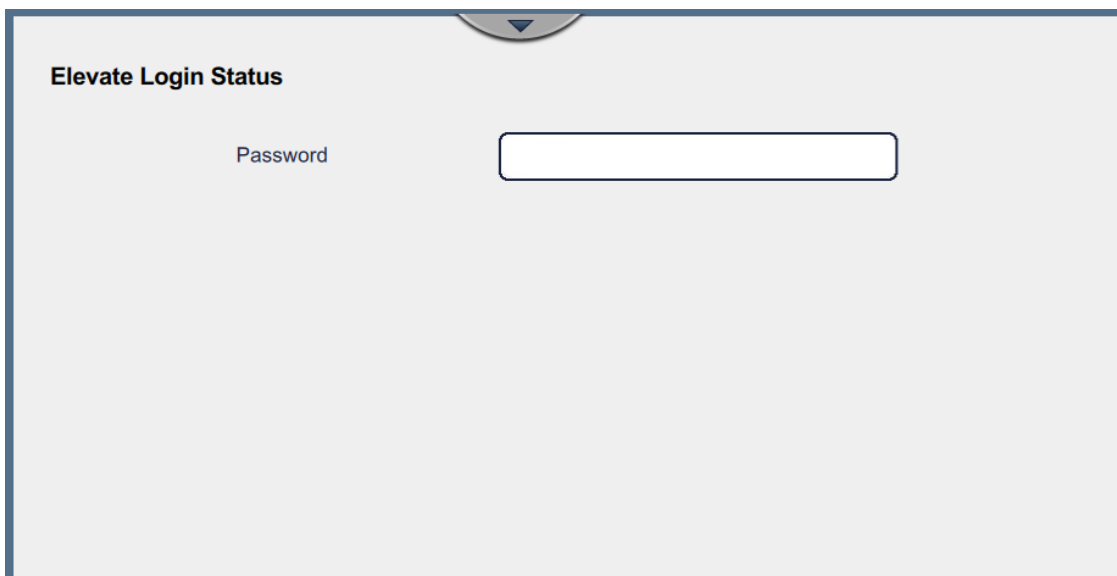

Figure 7-29: Elevated Login Status Screen
2. The printer will prompt for an elevated login password as shown in Figure 7-29. The elevated password can be obtained from Videojet technical support or Videojet website.